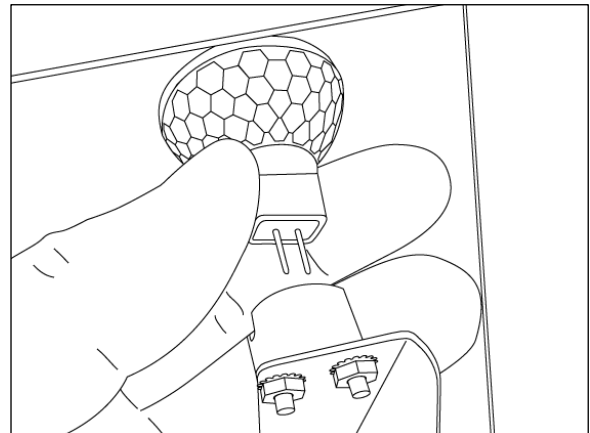

Figure 6-5
5. While wearing gloves, gently pull the old halogen light bulb out of its fixture (Figure 6-5).